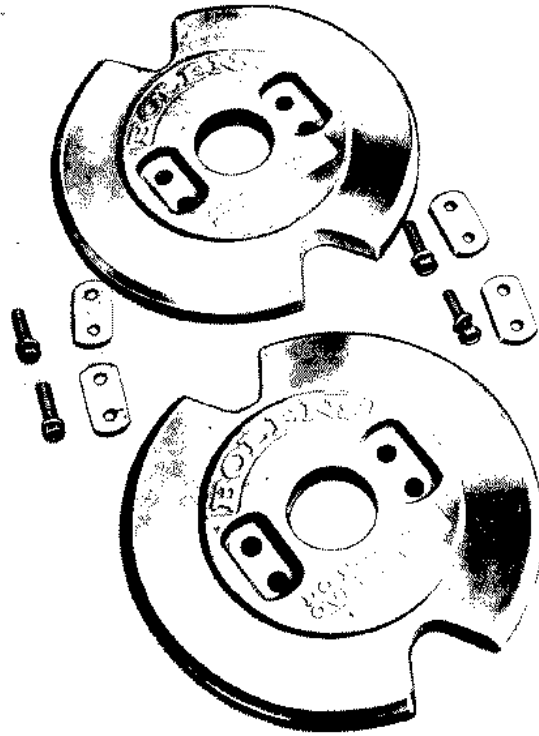

Figure 35
**DO NOT INSTALL MORE THAN THREE WHEEL WEIGHTS TO ONE WHEEL. (SEE FIGURE 35.)**